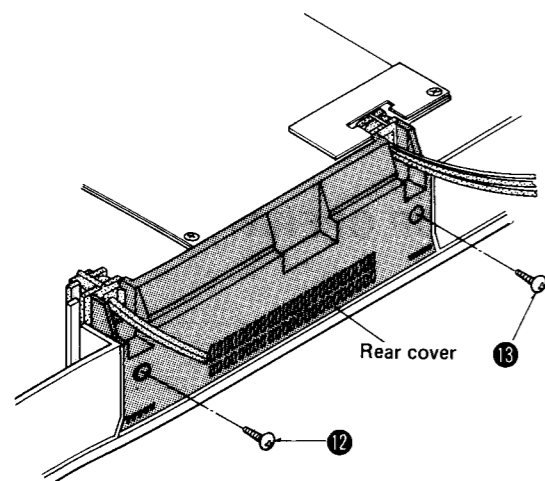

Fig. 2
4. Remove the rear cover setscrews ⑫ and ⑬ to remove the rear cover. (Fig. 2)